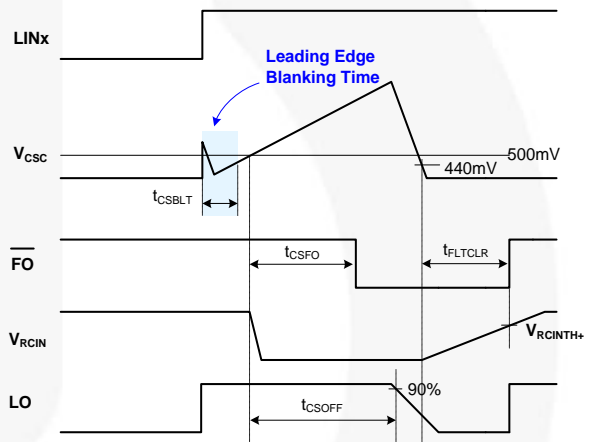

Figure 44. RCIN and Fault-Clear Waveform Definition
Figure 44 shows the waveform definitions of RCIN, \overline{FO} , and the low-side driver; which uses a soft turn-off method when an under-voltage condition of the low-side gate driver supply voltage (V_{DD}) or the current-sense pin (CS) recognizes a fault. If a fault condition occurs, the \overline{FO} Pin is internally pulled to COM and all outputs (HO1,2,3 and LO1,2,3) of the gate driver are turned off. Low-side outputs decline linearly by the internal sink current source ($I_{SOFT}=40\text{mA}$) for soft turn-off, as shown in Figure 44.